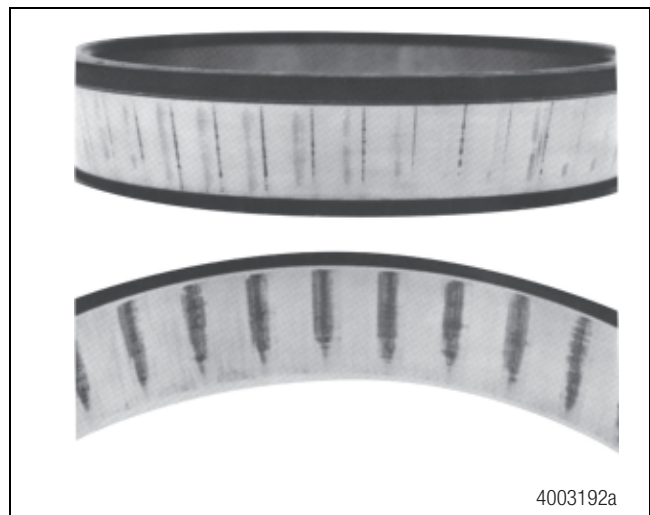

Figure 4.19
K. The races or rollers are brinelled. Figure 4.19.